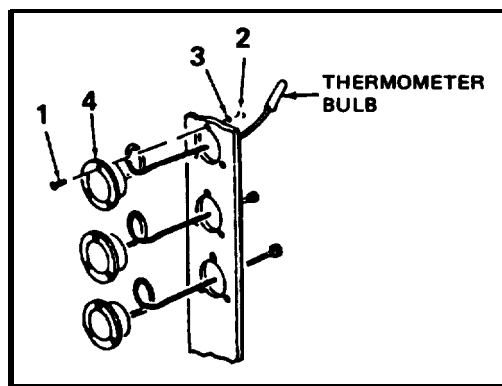

Figure 4-9. Thermometer
- (1) Carefully pull thermometer bulb through the condenser section.
- (2) Remove three screws (1, fig. 4-9), washers (3) and nuts (2) that secure thermometer (4) to the refrigeration unit frame and remove thermometer.